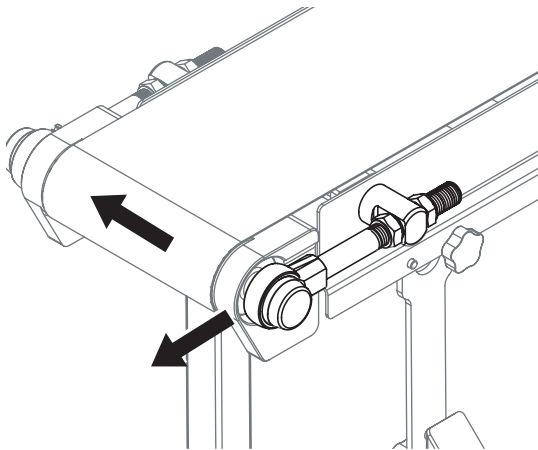

Figure 53
- b. Tighten the nut to increase the length of the idler tail shaft and move the belt away from that side of the conveyor (Figure 53).